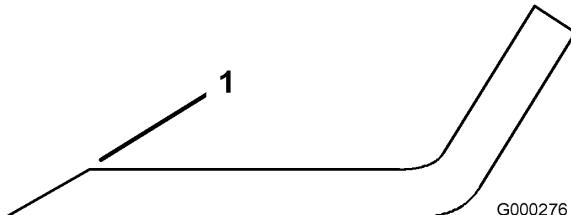

Figure 73
1. Use a file to sharpen the cutting edge at both ends of the blade (Figure 73). Maintain the original angle. The blade retains its balance if the same amount of material is removed from both cutting edges.